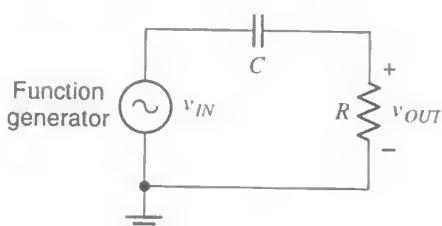

Fig. 5
Consider now the circuit of Fig. 5. Here the output is taken across the resistor. As before, at very low frequencies the capacitor will "act almost as an open circuit," which will virtually disconnect the output from the input. The output voltage can thus be expected to be very small at very low frequencies. At high frequencies, on the other hand, the capacitor will act almost as a short circuit, i.e. almost as if it were replaced by a direct connection from input to output, in which case the output voltage would be equal to the input voltage. Thus, for the circuit of Fig. 5, high-frequency input signals pass to the output, whereas low-frequency signals are rejected; for this reason, this circuit is said to be a *high-pass filter*. The voltage gain magnitude  $G$  can be defined again as above. When the frequency of the input is equal to  $f_c$ , where  $f_c = 1/(2\pi RC)$ ,  $G$  takes the value of  $1/(\sqrt{2}) \approx 0.707$ , just as in the case of the low-pass filter. The quantity  $f_c$  is again called the cutoff frequency of the filter. At this frequency, the output leads the input by +45 degrees.
9. Now build the high-pass filter of Fig. 5. Use  $R = 16 \text{ k}\Omega$  and  $C = 10 \text{ nF}$  as before. Vary the frequency of the input signal over a wide range. Observe qualitatively the amplitude of the output. Is your observation what you expected, and does it justify the name "high-pass filter"?